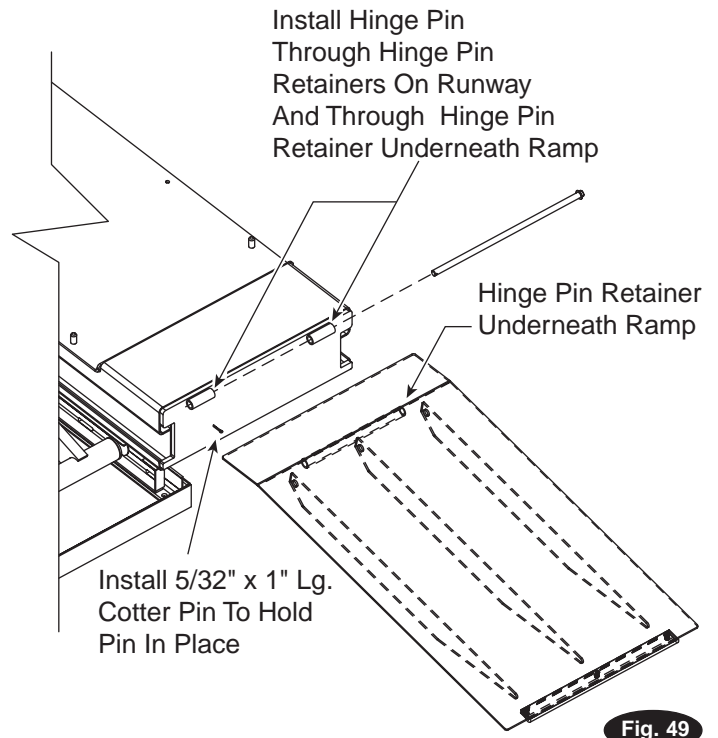

Fig. 49
A.) Install runway ramps / transition plates and stop ramps per Figs. 49, 49a and 50.